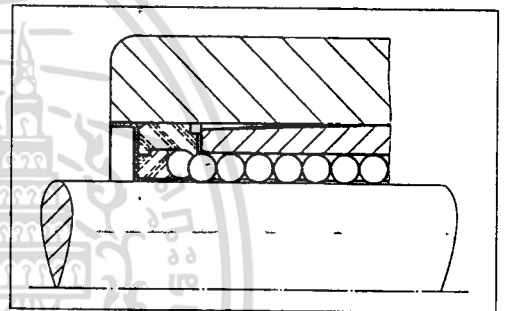

Figure 23: Retention by means of metal spacer (see Table 7 on page 9).
- wiper seal with metal spacer, or metal spacer only (Figure 23)